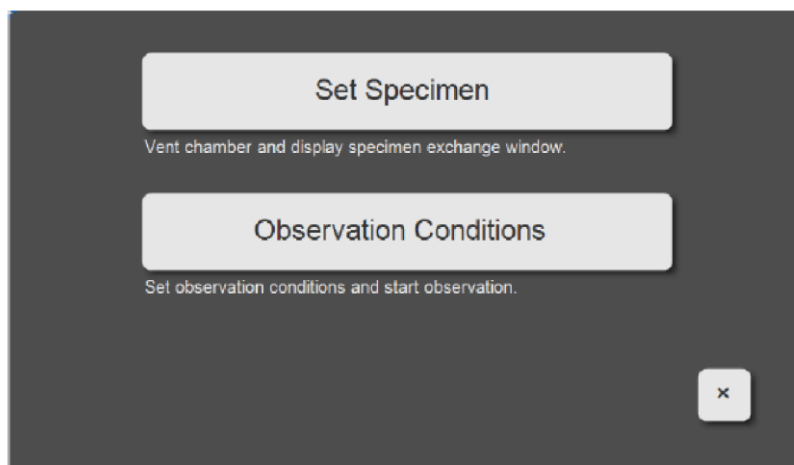

Figure 12: Sample exchange popup window.
14. Select either “Set Specimen” or “Observation Conditions” in the popup window that appears (Figure 12).